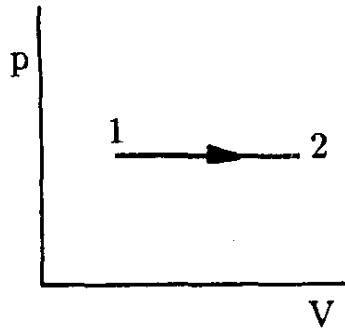

Fig. 2.2 Constant Pressure Process
- Figure 2.2 shows a system that changes from state 1 to state 2 at constant pressure.